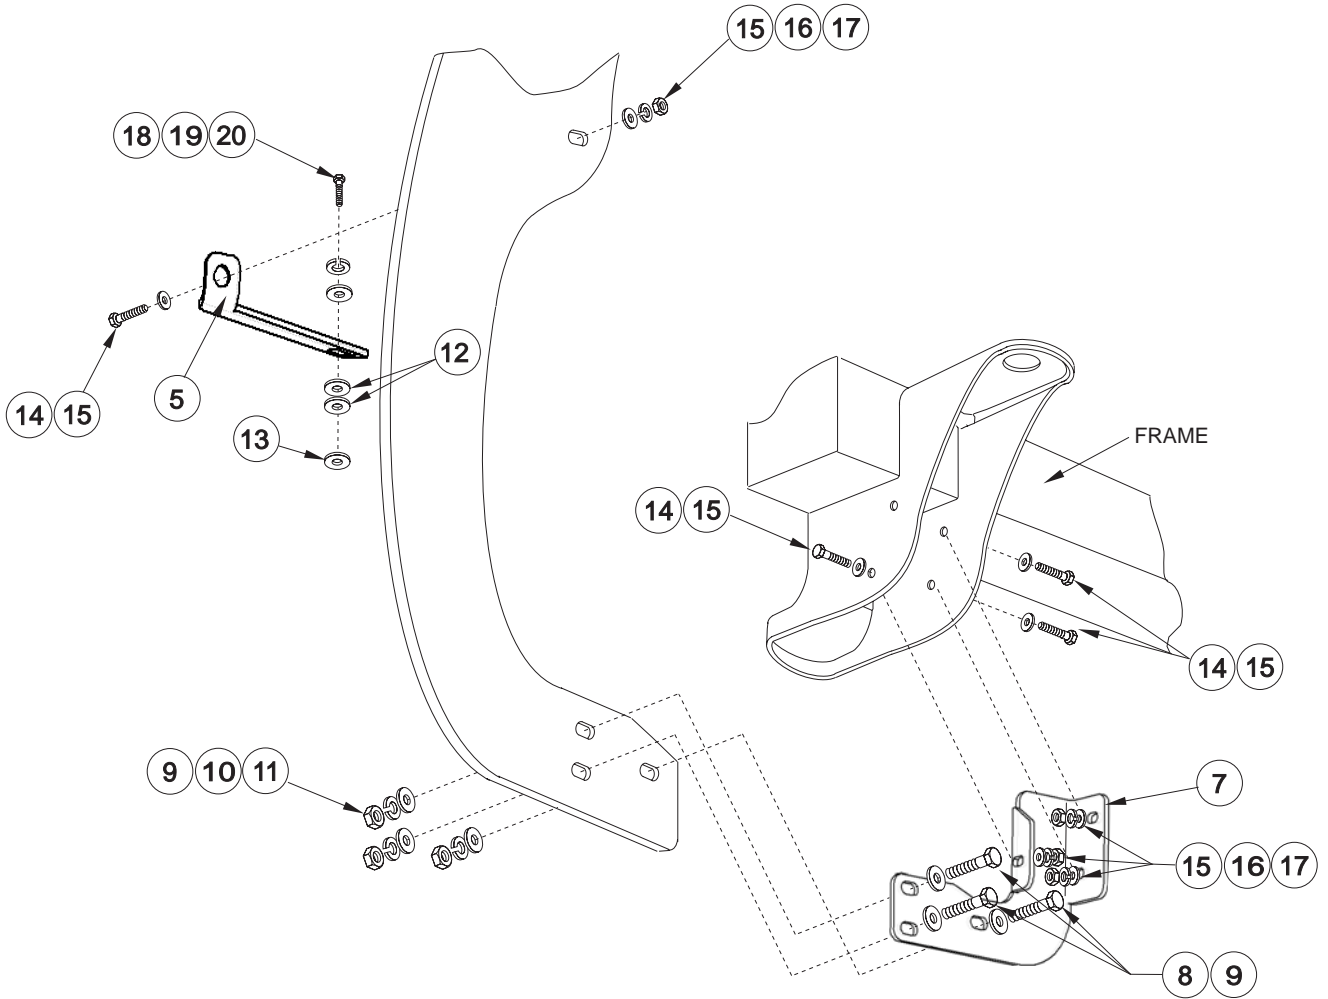

FIGURE 3
- STEP 5.** From underneath the front of vehicle locate the front body mount. Determine passenger and side bottom mount brackets. **SEE FIGURE 3.** Install brackets inside body mount channel with 3/8" fasteners as shown. Hand tighten.